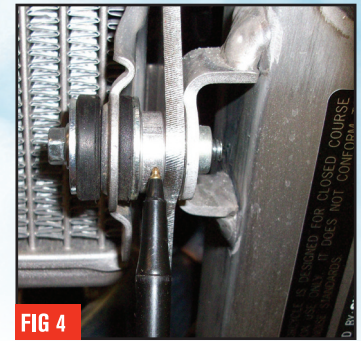
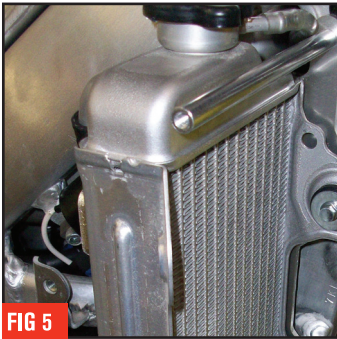

FIG 4
FIG 5
**8** In place of the stock radiator mounting bolts, use the 4 supplied 6x35mm hex head bolts with the 4 supplied flat washers and the 4 supplied aluminum spacers between the big brace halves and the radiator **(Figure 4)** to re-install the radiators with the big brace halves on the bike. **(Figure 5)** Tighten all 4 bolts.